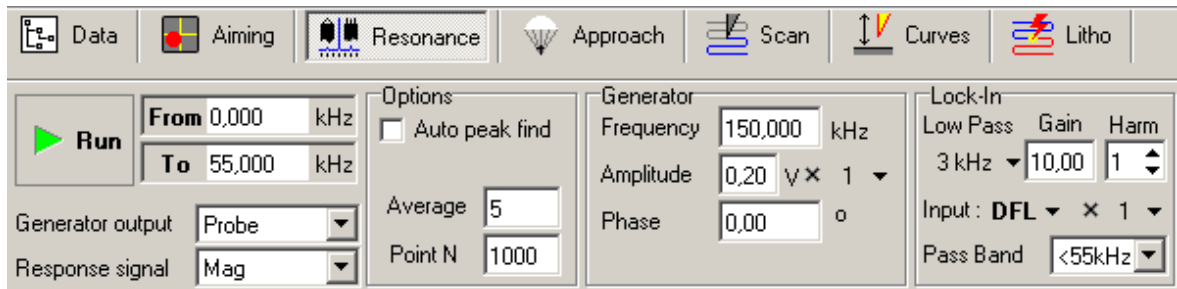

Fig. 3-8
3. Switch to **Resonance** tab (  button on the Main Operation panel) (Fig. 3-8).